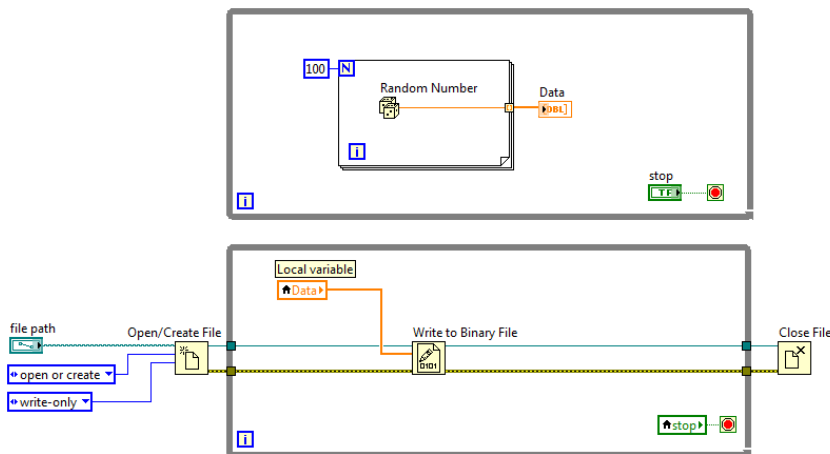

Figure 9: LabVIEW code for problem 3 e)
e) What is the problem(s) with the LabVIEW code in Figure 9 ?
Main problems with the code in Figure 9: